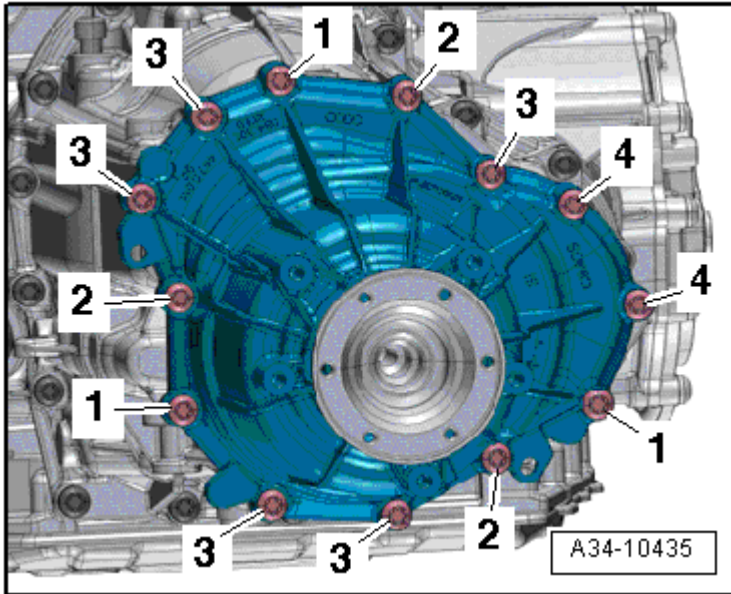

Fig. 4: Tightening Specification And Sequence, Center Differential Housing - Bolted Driveshaft
- Tightening specification and sequence, refer to **Fig. 4**